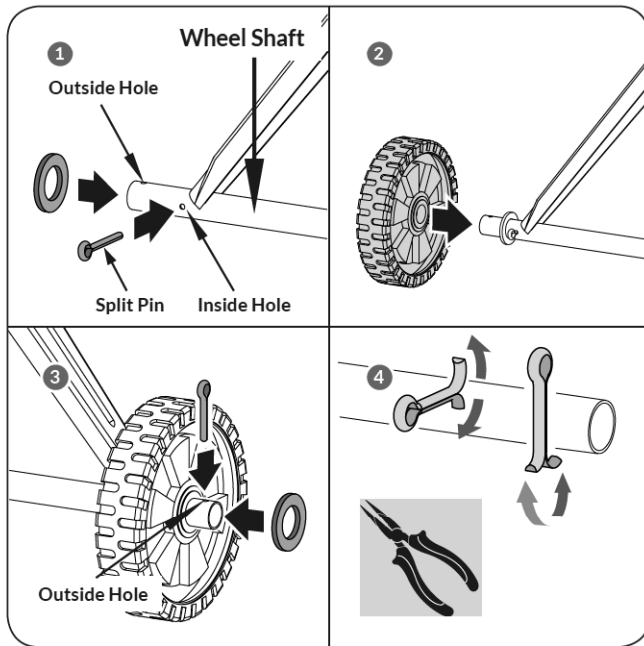

Figure 1a
1. Insert a split pin into the inner hole in each stub axle (See **Figure 1a, Illustrations 1-4** for details). Then, place a flat washer onto the axle, followed by the wheel, and then another flat washer. Insert another split pin into the outside axle hole. Bend each of the side pins outward so they do not fall out.